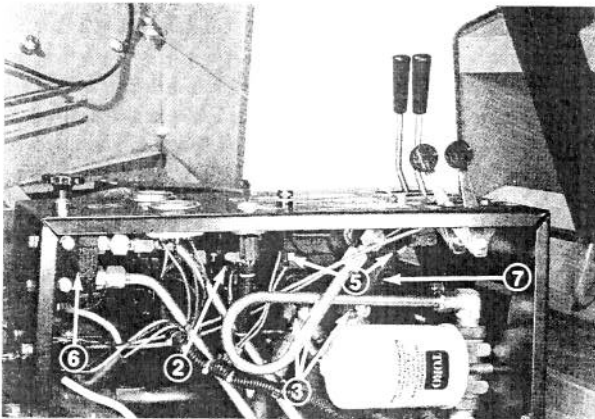

Figure 81
DAILY CHECKS: Check the hydraulic fluid level daily. Replenish with SAE 10W-30 or 10W-40 engine oil as necessary. Also, check daily for leaks, chafed or otherwise damaged hoses and make sure there are no kinks, sharp bends or twists in any flexible line. Repair or replace as necessary. (Fig.81).
1. Open engine cowl, place drain pan under valve, remove knob, hydraulic lines from valve, and fittings (Fig. 81 and 82).